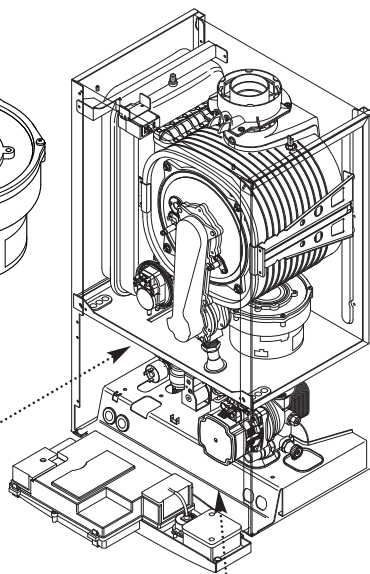

Fig. 58
15. Turn the tap off and draw off from a hot tap. Undo the blanking cap and remove the threaded bush (Fig. 58).